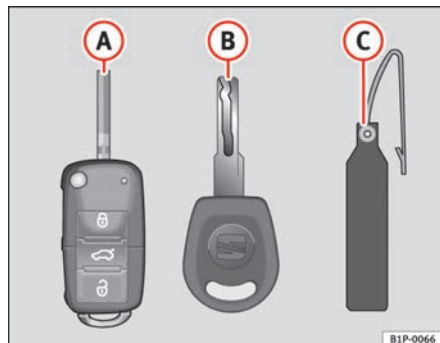

Fig. 63 Set of keys
- one remote control key ⇒ fig. 63 (A) with folding key bit,
- one key without remote control (B),
- one key tab (C) with the key number.
Spare keys cannot be issued without the key number on the key tab ⇒ fig. 63 (B). Therefore:
- Use both keys that have been delivered with the vehicle ⇒ page 99, fig. 63, the key fitted with the remote control  and the normal key .